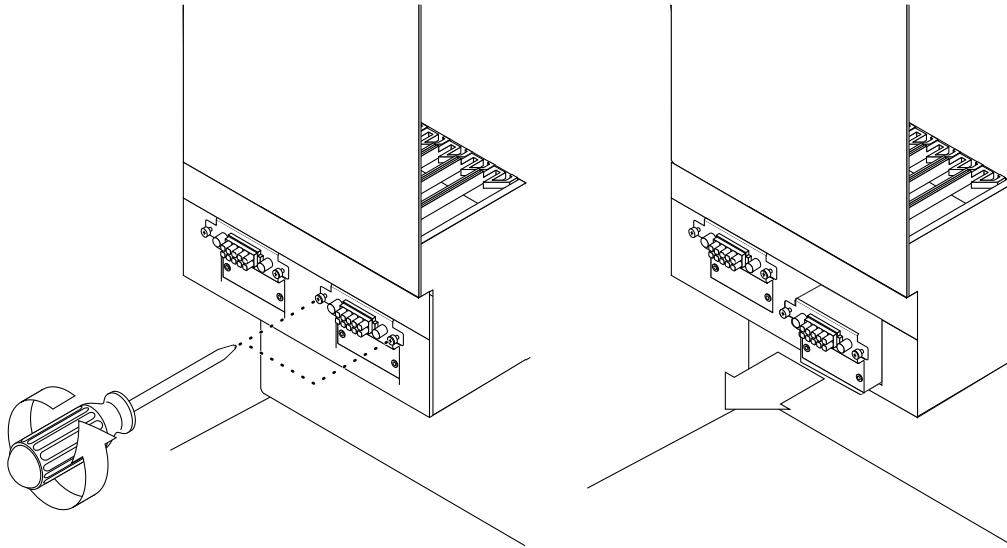

FIGURE 10-8 Removing the Power Distribution Unit
6. Carefully reach into the chassis from the front and unscrew the two captive screws that secure the power distribution unit to the chassis (FIGURE 10-8).
2. Tighten the two captive screws to secure the power distribution unit to the chassis (FIGURE 10-8).